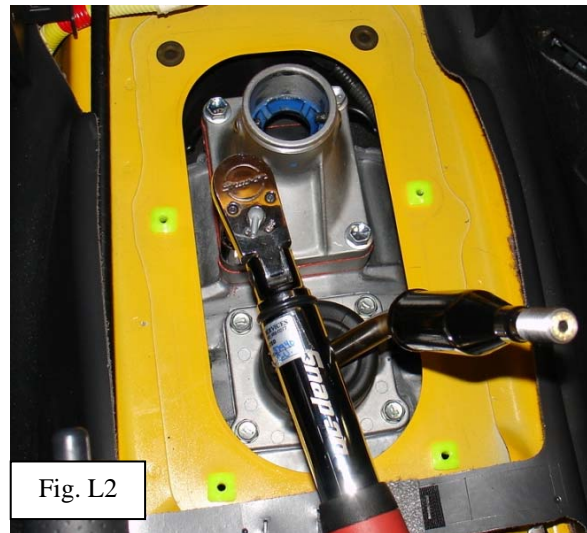

Fig. L2
- ⚠ 3. Install 4 supplied 50mm long bolts. Tighten bolts using a star pattern. (Fig. L2) Torque bolts to 25 lbs.-ft.